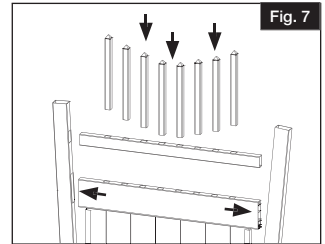

Fig. 7
- b.) For open picket top gates, insert top rail into upright route on same side as bottom and middle rails. Insert pickets through top rail into middle rail (Fig. 7).